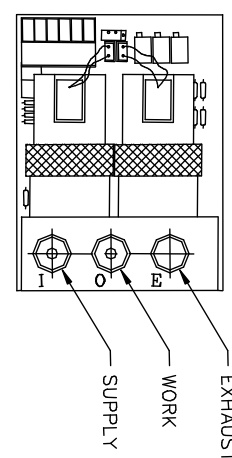

Figure 4
2. Connect supply pressure to the “I” port (figure 4) not to exceed rated supply pressure. (See table 1) **Be sure to look at the stamping because the inlet “I” and the exhaust “E” ports are reversed in high pressure units.** For units with S938 option, the supply “I” and the exhaust “E” ports are reversed.
3. Connect the outlet “O” port (figure 4) to the device being controlled.